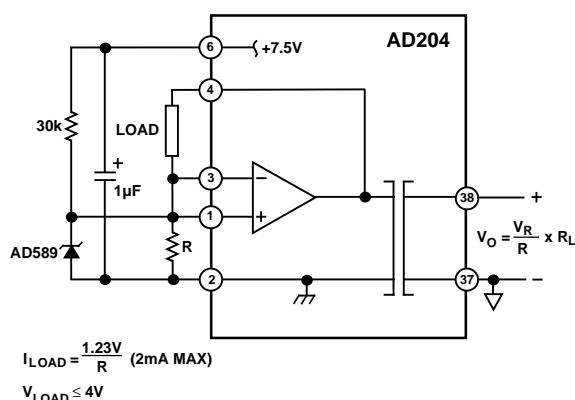

Figure 21. Floating Current Source
**Floating Current Source/Ohmmeter.** When a small floating current is needed with a compliance range of up to  $\pm 1000$  V dc, the AD204 can be used to both create and regulate the current. This can save considerable power, since the controlled current does not have to return to ground. In Figure 21, an AD589 reference is used to force a small fixed voltage across R. That sets the current which the input op amp will have to return through the load to zero its input. Note that the isolator's output isn't needed at all in this application; the whole job is done by the input section. However, the signal at the output could be useful if it's the voltage across the load, referenced to ground. Since the load current is known, the output voltage is proportional to load resistance.